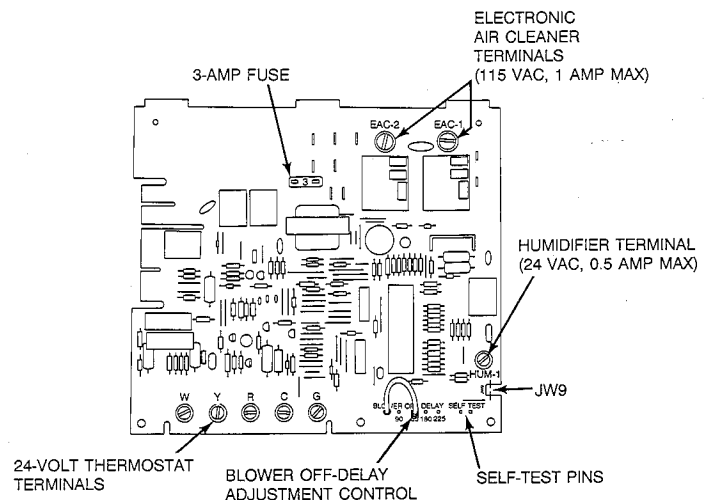

Fig. 11—Control Center A91060
24-VOLT WIRING — Make field 24-vac connections at the 24-volt terminal strip. (See Fig. 11.) Connect terminal Y as shown in Fig. 12 for proper operation in cooling mode. Use AWG No. 18 "color-coded" wire only.
1. Self-test—The furnace features a self-test system to help diagnose a system problem in the case of a component failure. Two test pins (ST-1 and ST-2) are located in the upper right-hand corner of the control board as shown in Fig. 11. To initiate the self-test procedure, momentarily short across the two pins (approximately 0.5 seconds).